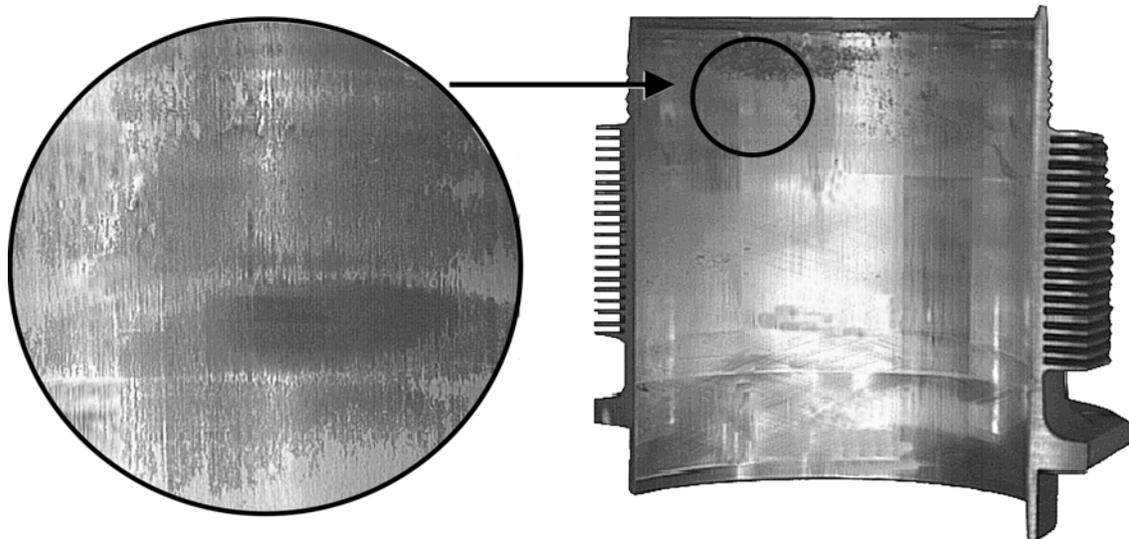
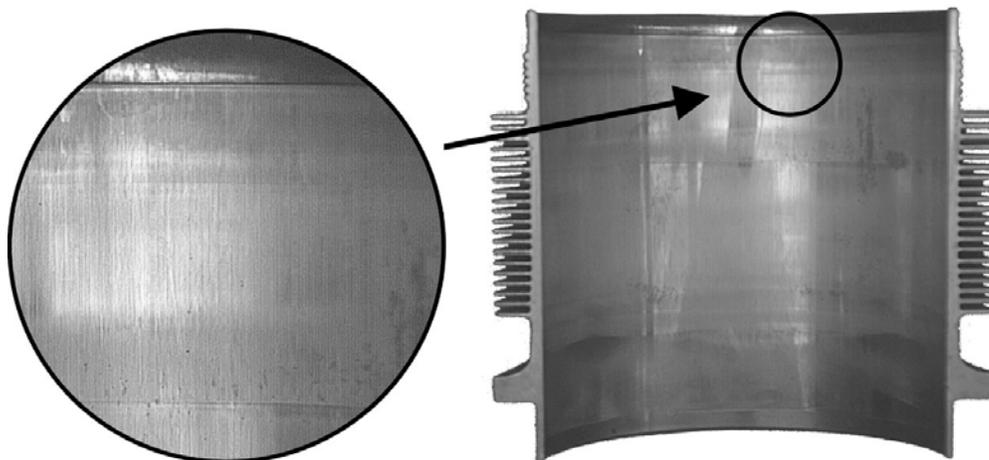

FIGURE 10
FIGURE 11
| Cylinder Bore. | Inspect exposed surface of bore for: 1. Heavy scoring/piston rub. See Figure 10 on page 13. 2. Piston pin rub (wide ban pattern in horizontal plane at 3 o'clock and/or 9 o'clock position). 3. Upper portion of cylinder bore has no visible hone pattern. See Figure 11 & 12 on page 13 and 14. 4. Corrosion. See Figure 9, on page 12. 5. Excessive oil in cylinder/heavy deposits of carbon in combustion chamber | 1. Repair or replace cylinder. 2. ① 3. Normal indication for in service cylinders 4. ② 5. Remove cylinder for repair |